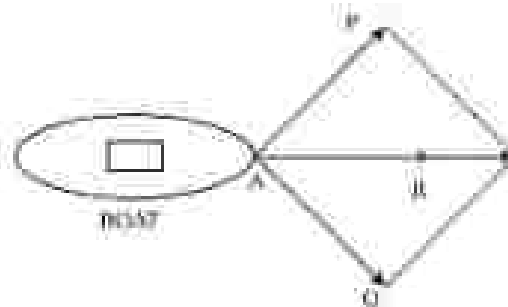

Fig 1.12
- Consider two forces P and Q acting at A on a boat as shown in Fig 1.12. Let R be the resultant of these two forces P and Q. According to Newton's second law of motion, the boat will move in the direction of resultant force R with acceleration proportional to R. The same motion can be obtained when P and Q are applied simultaneously.